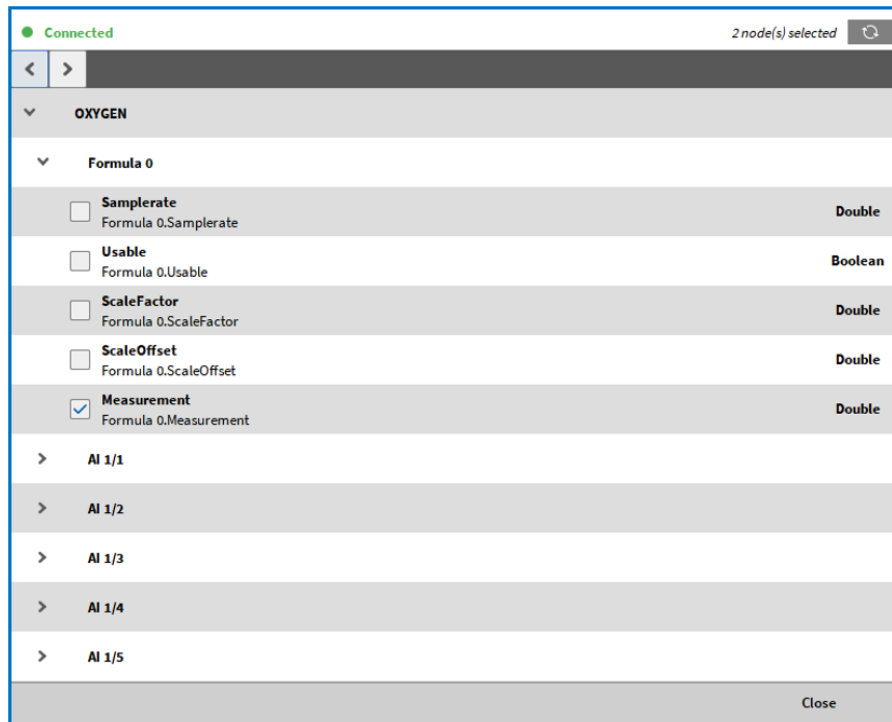

Fig. 5.3: Node selection for OPC UA Client
**Node Selection:** All available nodes are displayed in a tree view (See Fig. 5.3). The structure and available objects depend on the specific OPC UA Server implementation. For details on parameters provided by an OXYGEN OPC UA Server, refer to the *Channel Parameters* section in the Server chapter.